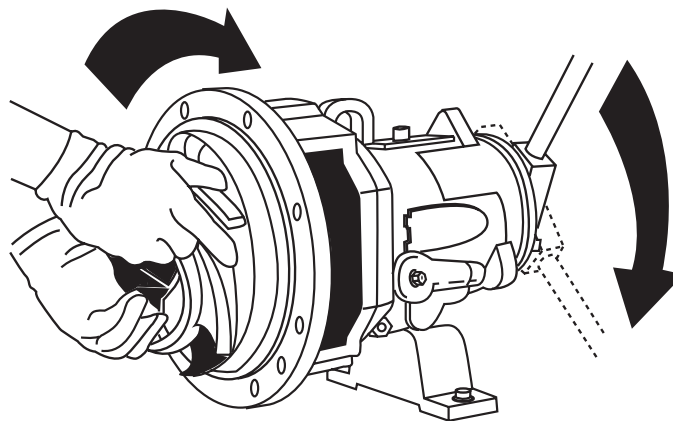

Figure 4. Impeller Installation
26. With the impeller wrench handle to the left, grab the impeller (figure 1, item 13) with both hands and spin the impeller forcefully in a clockwise direction to impact the impeller wrench handle on the workbench. Refer to figure 4.